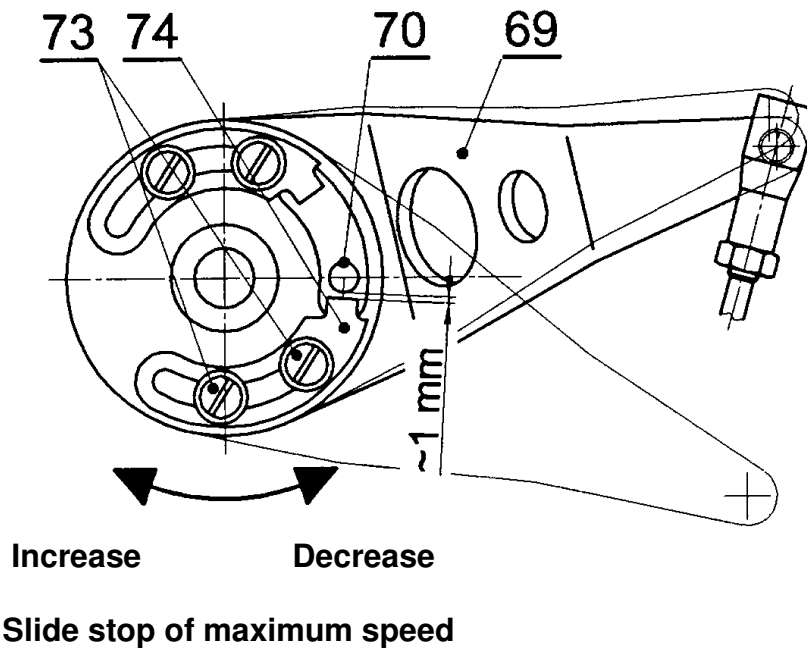

Fig.303 Propeller maximum speed adjusting
B. Maximum speed adjusting (see Fig.303)